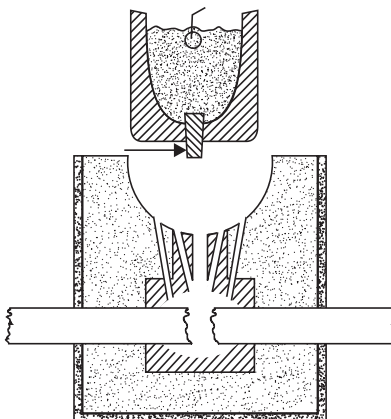

Fig. 14.10 Goldschmidt Thermit process.
**Goldschmidt Thermit process is nowadays mostly used for welding rails and machine parts** (Fig. 14.10). Thermit, a mixture of aluminium powder and iron oxide in the ratio 3:1 by weight, is ignited in a crucible by a ribbon of magnesium, when a violent reaction takes place producing molten iron at 2500°C.